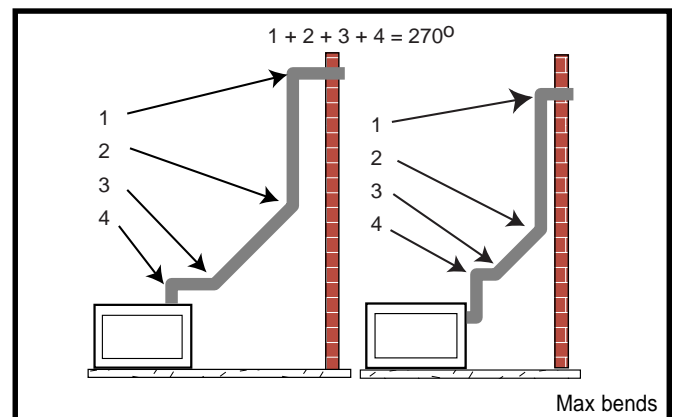

Fig. 24 Maximum elbow usage
- The maximum number of 45° elbows permitted per side wall installation is two (2). These elbows can be installed in either the vertical or horizontal run.
- The maximum number of elbow degrees in a system is 270°. Example shown in Fig. 24:
1. Establish vent hole through the wall (Fig. 24).